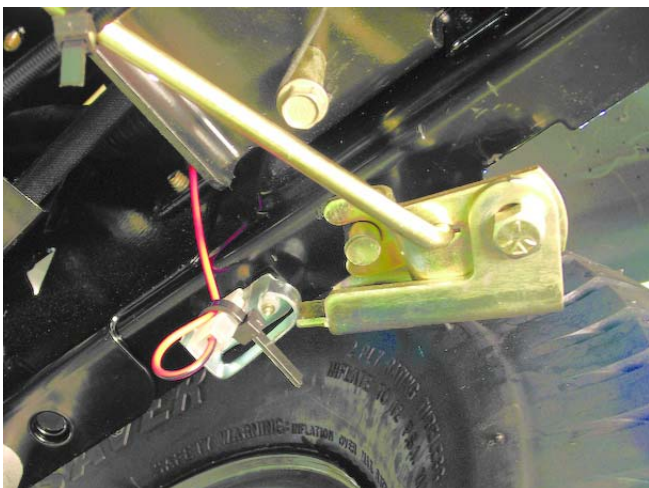

Figure 5.14
- The linkage contacts the reverse safety switch tang when the tractor is in reverse. See Figure 5.14.